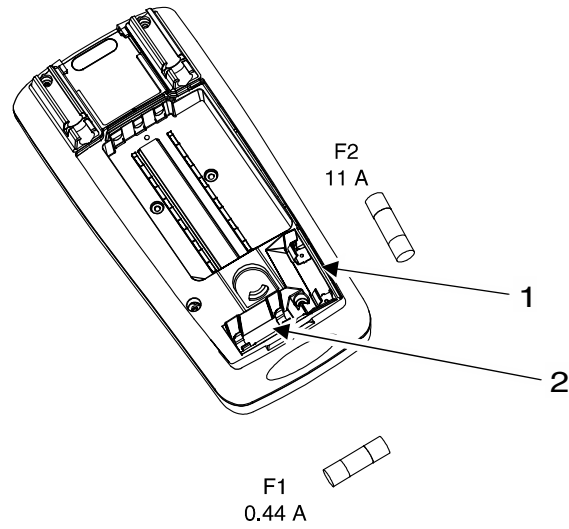

Figure 3. Multimeter Fuses Location
4. Gently pry one end of the fuse (F2) (Figure 3., Item 1) loose, then remove the fuse out of its brackets.
5. Gently pry one end of the fuse (F1) (Figure 3., Item 2) loose, then remove the fuse out of its brackets.